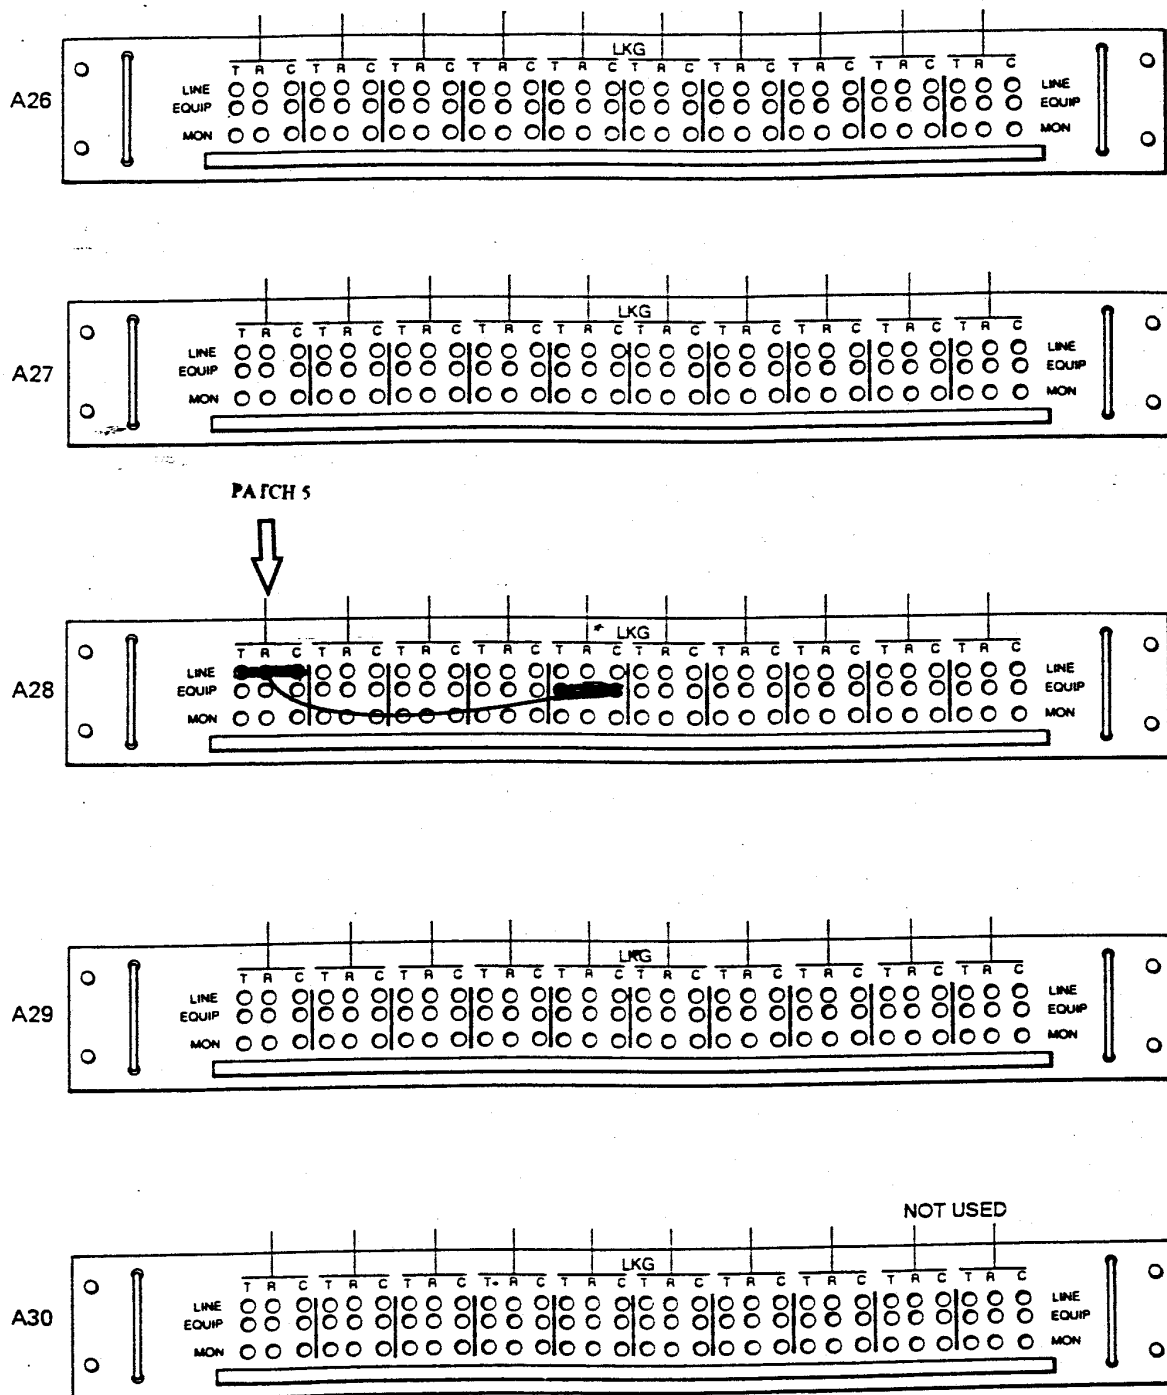

FIGURE 3.
- H. Figure 3: Patch 5.
- I. Figure 3: A26, A27, A28, A29, A30.